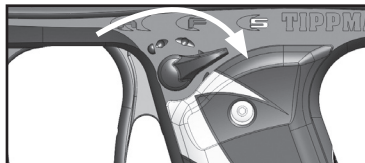

Figure 1: Selector Switch shown in Safe Mode
**To put in Safe mode: Move the Selector Switch so the indicator points to “S” as shown in Figure 1.**